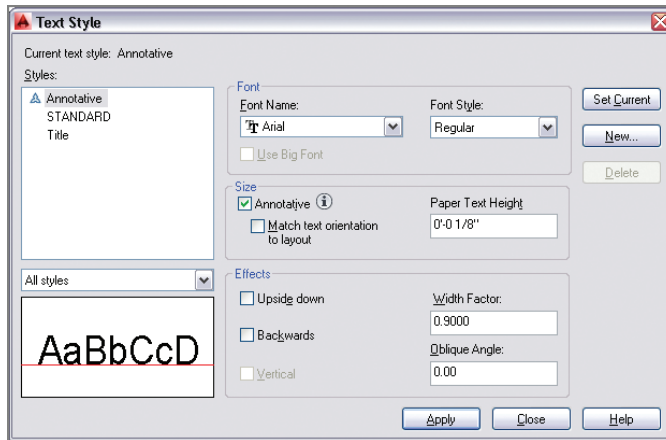

FIGURE 13.1 Creating an annotative text style
3. Select Arial as the font name, select Annotative in the Size area, type **1/8"** (or **0.4** cm) for Paper Text Height, and type **0.9** for the Width Factor (see Figure 13.1). Click Apply, and then click Close.